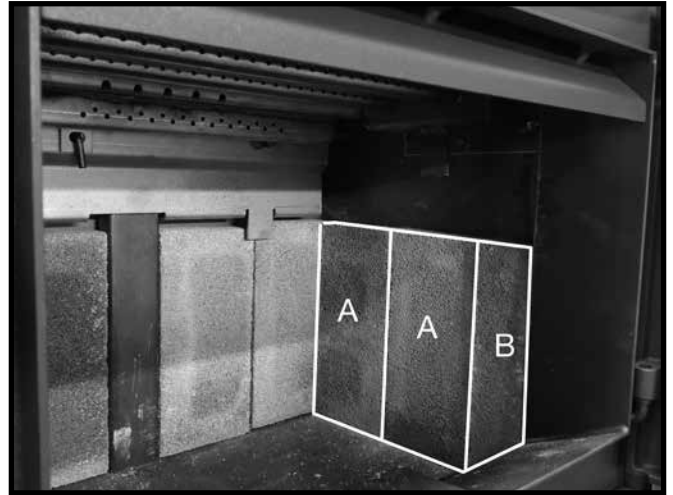

Figure 22: Lower side wall firebricks in place.
2. For the side walls: Stand an "A" firebrick against the side wall and up against the rear wall firebrick. Stand another "A" brick beside the first one followed by a narrow "B" firebrick (Figure 22).